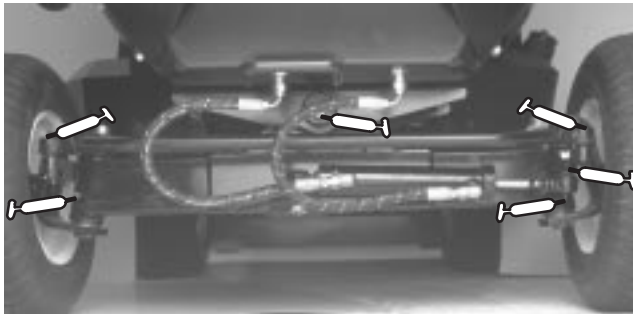

Figure 15
(Fig. 15–20)
2 Wheel Drive Models only—Steering cylinder ball joint, Rear axle tie rod (2), Rear axle pivot (1) Rear Spindle Shafts (2) (Fig. 15).